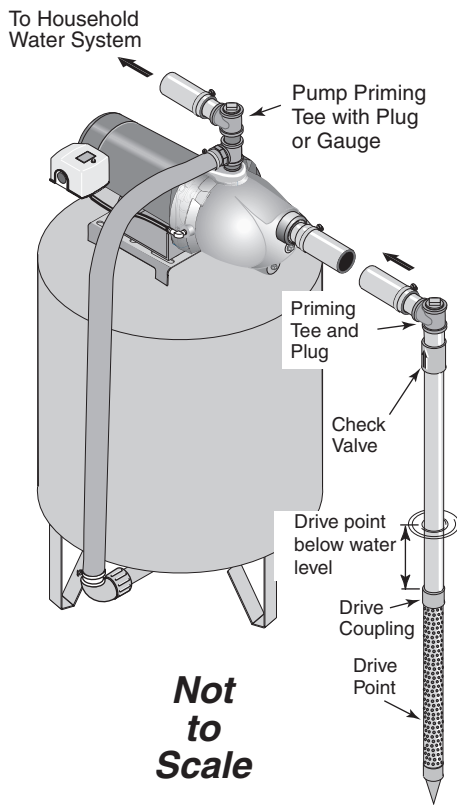

Figure 1: Driven Point Installation
### WELL POINT (DRIVEN POINT) INSTALLATION (Figure 1)
- Step 3. Use the fewest possible fittings (especially elbows) when connecting the pipe from the well point to the pump suction port. The suction pipe should be at least as large as the suction port on the pump (include a check valve if your pump is not equipped with one – see Figure 1). Support the pipe so that there are no dips or sags in the pipe, so it doesn’t strain the pump body, and so that it slopes slightly upward from the well to the pump (high spots can cause air pockets which can air lock the pump). Seal the suction pipe joints with teflon tape or a teflon based pipe joint compound. Joints must be air- and water-tight. *If the suction pipe can suck air, the pump cannot pull water from the well.* If one well point does not supply enough water, consider connecting two or three well points to one suction pipe.